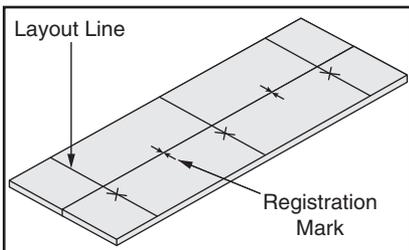

Figure 11. Layout lines and registration marks.
3. Use a square to draw lines across boards through marks, then mark edge to be joined on each board to ensure correct edge is cut (see **Figure 11**).